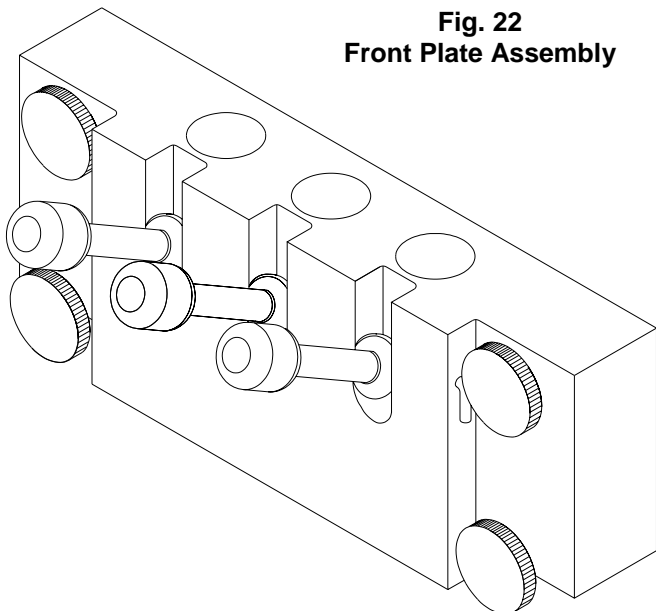

Fig. 22
- f. Install the front plate assembly with the four plastic knobs. Turn the knobs in a clockwise direction and be certain to tighten them evenly. **DO NOT** tighten one knob all the way down and then another. Doing so may result in front plate breakage. Only moderate force is required. **DO NOT** overtighten. Set all spigot plungers to the closed position as shown in Fig. 22.